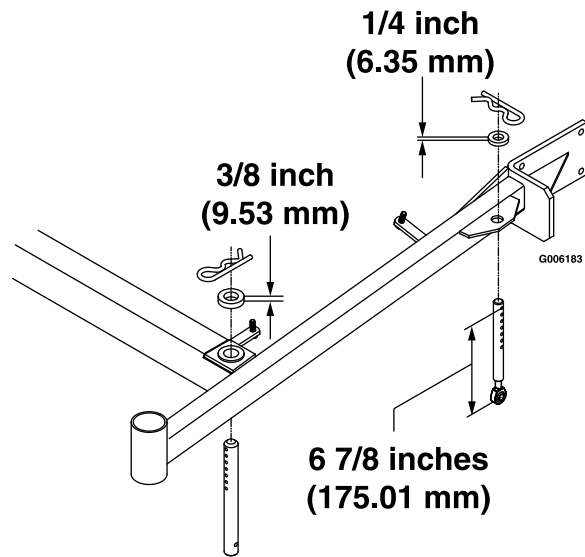

Figure 7
- C. The length of the rear deck support link assemblies average 6.89 inches (approximately 6 7/8 inches) (175.01 mm) from the center of the balljoint to the center of the farthest hole. See Figure 7.